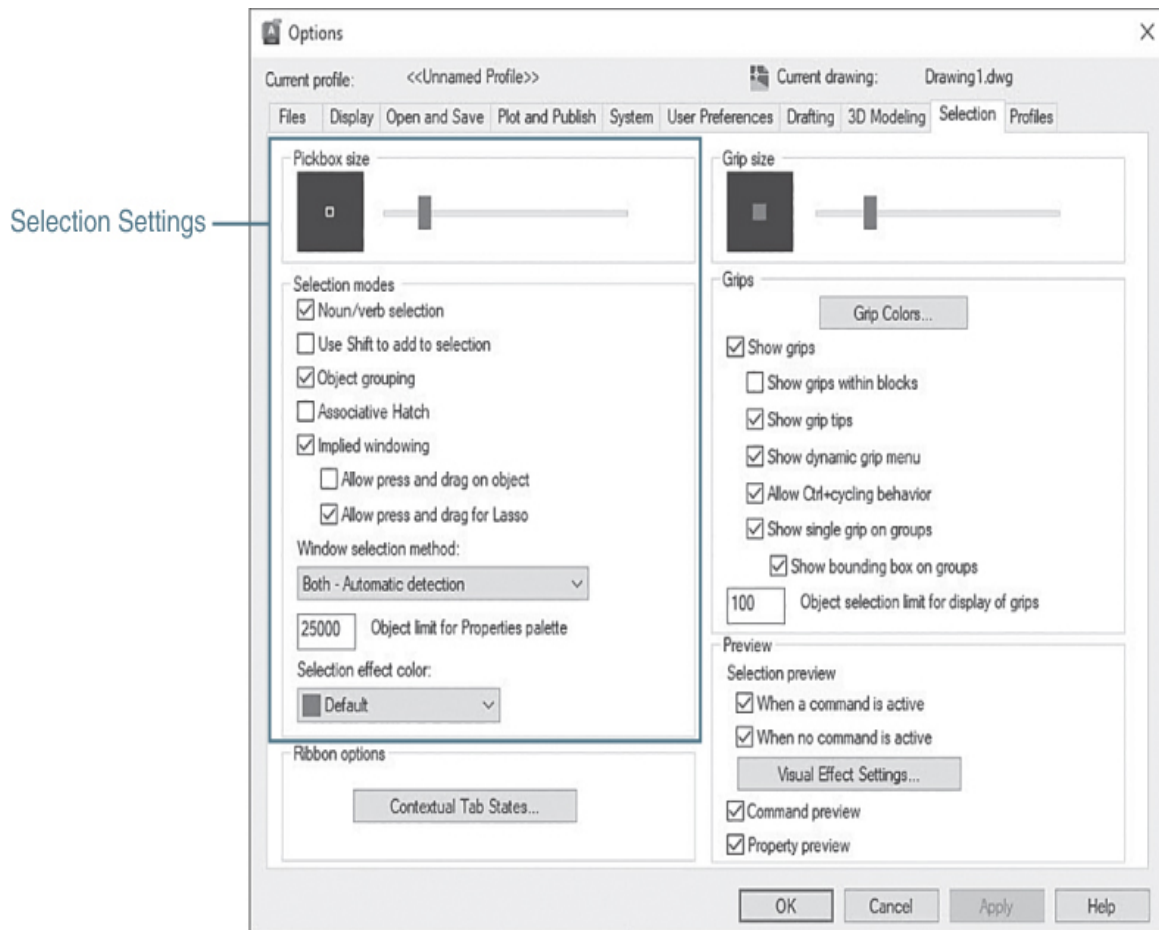

Figure 7-2
The traditional approach to editing in AutoCAD is verb/noun—activate the command first and then select the object(s). The alternate noun/verb approach to editing can actually be disabled—it is on by default. The noun/verb selection mode and other object selection features are controlled on the **Selection** tab of the **Options** dialog box shown in Figure 7-2.
Many of the settings located on the **Selection** tab are explained throughout this chapter. For now, make sure that your **Selection modes** settings match those shown in Figure 7-2. Failure to do so can cause some of the examples and exercises in this chapter to behave differently than anticipated.
You can control the size of the pickbox and turn the selection preview feature on and off via the **Selection** tab of the **Options** dialog box shown in Figure 7-2. Other selection preview features are controlled via the **Visual Effect Settings** dialog box, which can be displayed by selecting the **Visual Effect Settings...** button in the **Selection preview** area.
Implied windowing is turned on and off on the **Selection** tab of the **Options** dialog box shown in Figure 7-2. If **Implied windowing** mode is on, AutoCAD automatically initiates the **Window** option. The **Window** option is discussed in detail a little
When selecting objects individually, it is possible to change the selection mode so that you must use the **<Shift>** key when adding objects to the current selection set. If you select the **Use Shift to add to selection** check box in the **Selection modes** area on the **Selection** tab of the **Options** dialog box (see Figure 7-2) so that it is turned on, you must hold down the **<Shift>** key when selecting more than one object. When the **Use Shift to add to selection** mode is on and you try to select more than one object *without* using the **<Shift>** key, the first object is deselected so it is no longer highlighted. By default, the **Use Shift to add to selection** mode is off.
- 2 Make sure that your **Selection modes** settings on the **Selection** tab of the **Options** dialog box match those shown in Figure 7-2.